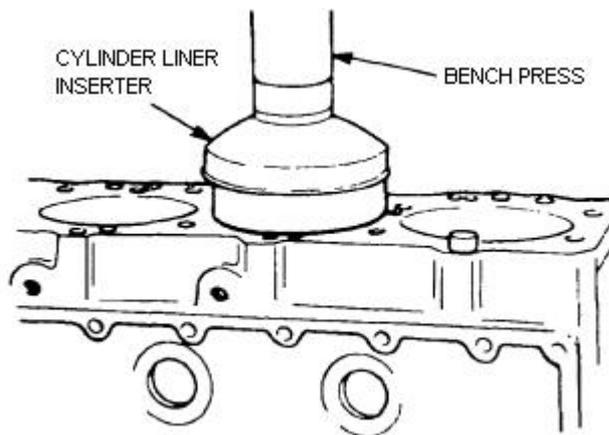

Figure 36 Installing the Cylinder Liners
- c.** Position the cylinder liner inserter (Table 3, Serial 5) over the cylinder liner (Figure 36). Press the liner into the block by applying an initial load of 500 kg (1 100 lb) and a final load of 2 500 kg (5 500 lb) to ensure that the cylinder liner is properly seated.